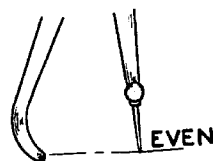

FIG. 11 ADJUSTING LENGTH OF SCRIBER LEG
- Adjust the length of the scriber leg so that it is even with the inside edge of the rounded caliper leg when it is to be used to scribe lines from the outside edge of the work. (Fig. 11).